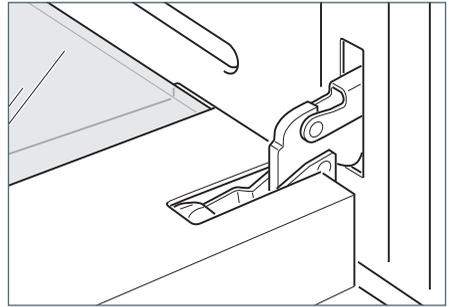

Fig.59a
- Fully open the oven door (Fig. 59a).
- 1 Make sure the door is locked open (see Figs. 59a - 59c).